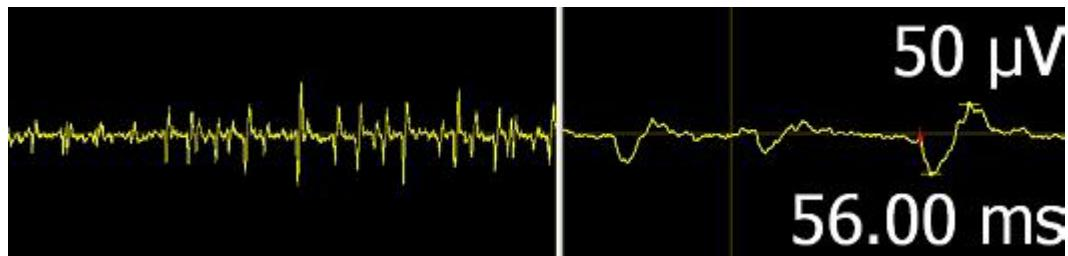

Fig. 144. EMG noise caused by muscle tension
- Errors in EMG data can be caused by tension of the muscle, resulting in noise on the EMG channel (see Figure 144). Advise the patient to relax his or her muscles before stimulating.